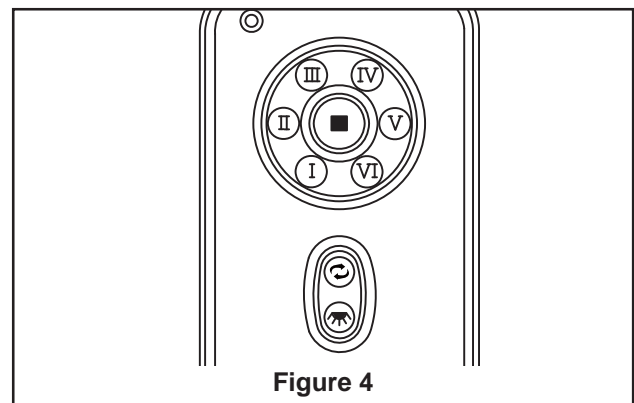

Figure 4
- ☹ Light button: Controls light on/off and, infinite light levels (performed by holding down the light on/off button). (Figure 4)